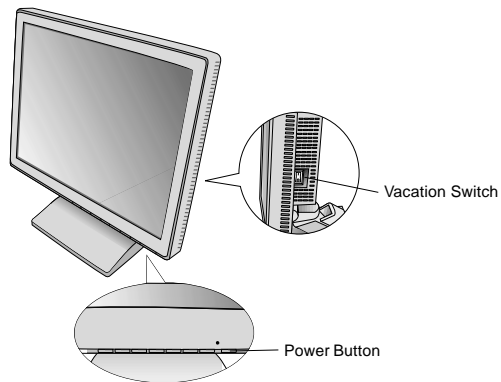

Figure D.1
6. The Vacation Switch on the right side of the monitor must be turned on (Figure D.1). Turn on the monitor with the Power Button and the computer.